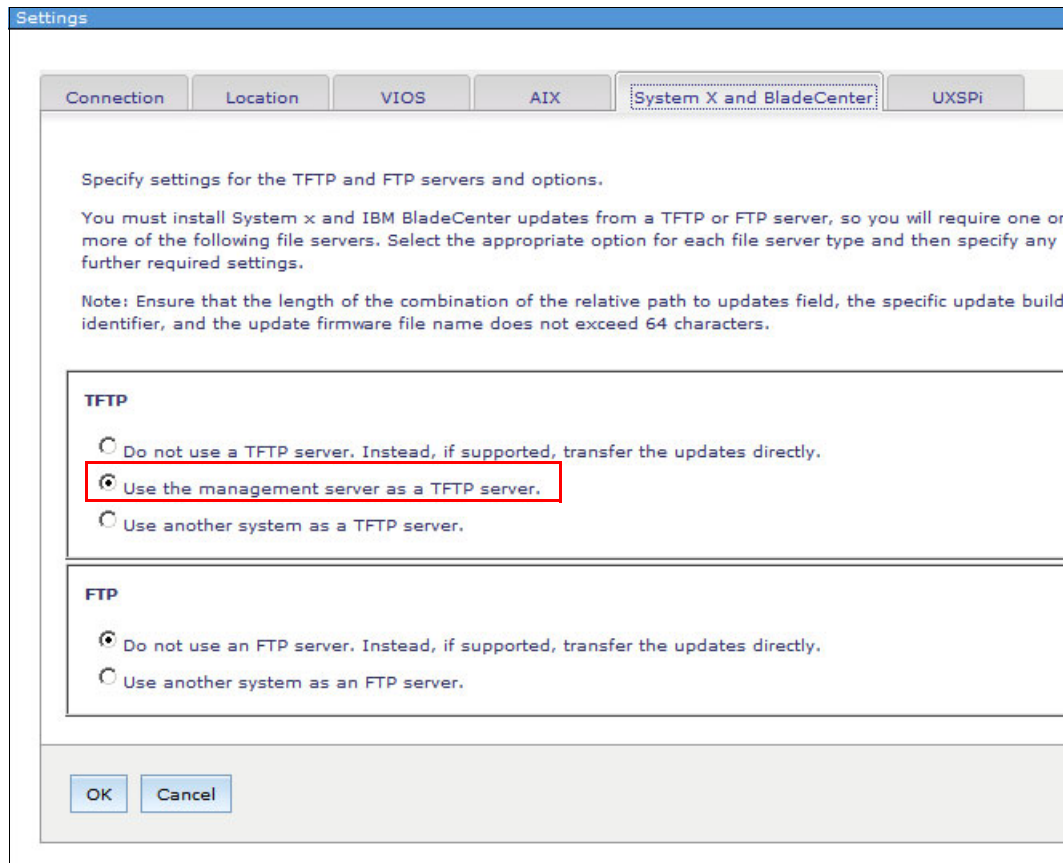

Figure 6-97 Update Manager settings: System x and BladeCenter
2. Enable TFTP server on the FSM management node. Open Update Manager settings (see “Direct Internet connection” on page 192), then click **System x and BladeCenter** tab, as shown in Figure 6-97. Click **OK**.